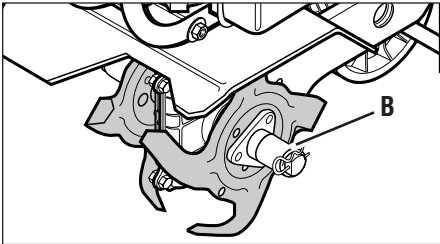

Figure 17: Narrow tilling tine positions.
4. Slide one of the long bushings (B, Figure 17), provided with the unit, onto the shaft. Insert the hitch pin through the tine shaft.